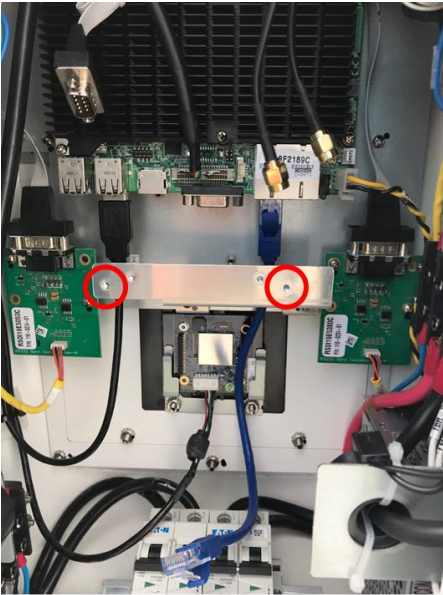

Figure 2
2. Use the mounting holes as shown in Figure 2 to mount the aluminum bracket for Wi-Fi module with power supply.